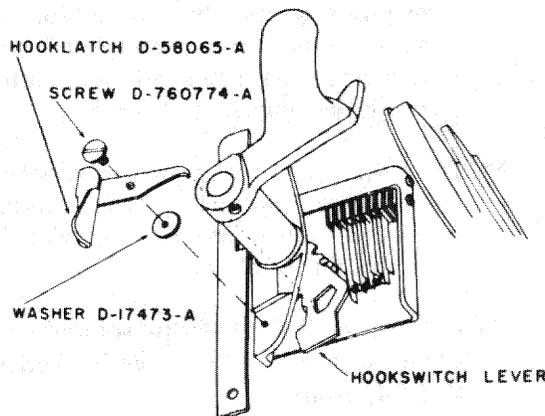
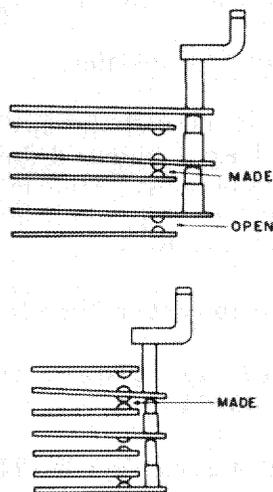

Figure 10. Hooklatch Installation.
Figure 11. Partial Operation of Hookswitch Springs when Controlled by a Hooklatch.
- (1) Remove the telephone set housing as instructed in Paragraph 4.01.
- (2) Attach the hooklatch to the telephone set as shown in Figure 10, using the shoulder screw and washer provided.
- (3) Wire the telephone set as indicated for hooklatch in Table 1, 2, or 3, as appropriate.
- (4) Lift the telephone set handset from the cradle with the hooklatch lever lifted, and observe that the positions of the hookswitch springs are as shown in Figure 11, as appropriate for the type of set.
- (5) Install the housing on the telephone set as instructed in Paragraph 4.01.